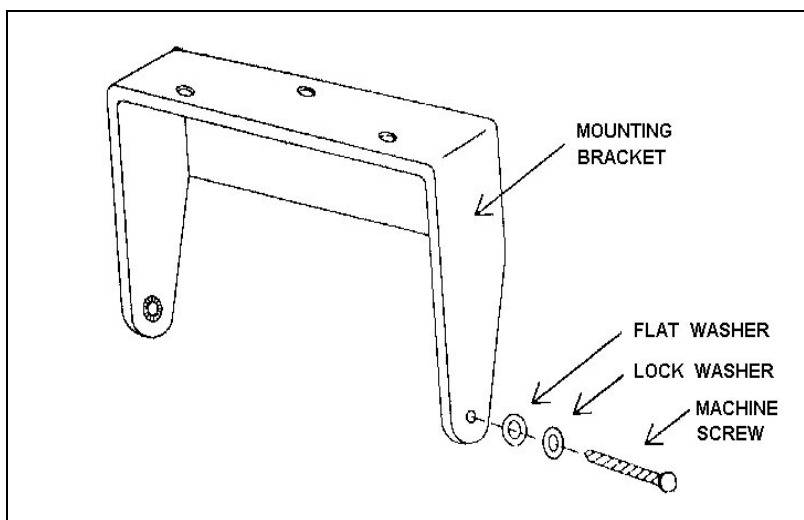

Figure 25 - Speaker Mounting
1. Use the mounting bracket as a template for locating the mounting holes and mount the speaker as shown in Figure 25.